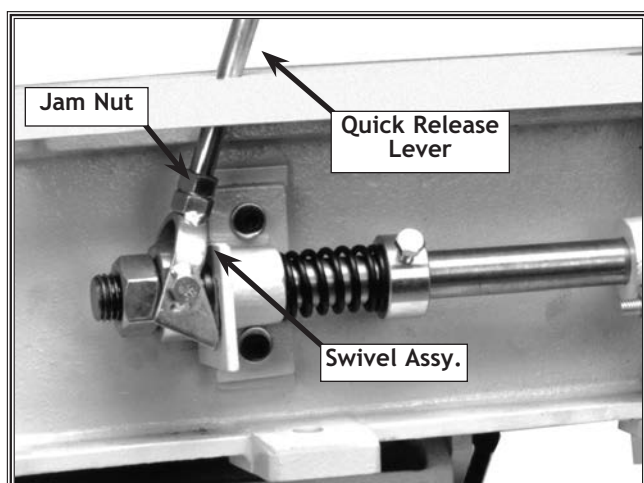

Figure 17. Quick release lever, jam nut, and swivel assy.
3. Thread the $\frac{1}{2}$ " jam nut onto the quick release lever until the nut bottoms at the end of the lever threads and thread the lever into the swivel assembly until the lever bottoms. If required have an assistant push the idler roller inward to line up the swivel assembly with the threaded lever. See Figure 17.
4. Tighten the jam nut and the belt tracking lock knob. See Figure 17.